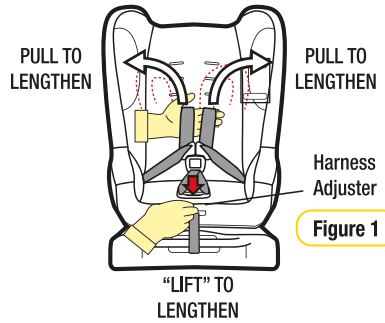

Figure 1
**Step 2:** To lengthen the harness "LIFT" the harness adjuster (refer Figure 1) whilst grasping both shoulder harness straps and pulling. Ensure shoulder straps are pulled equally on each side.